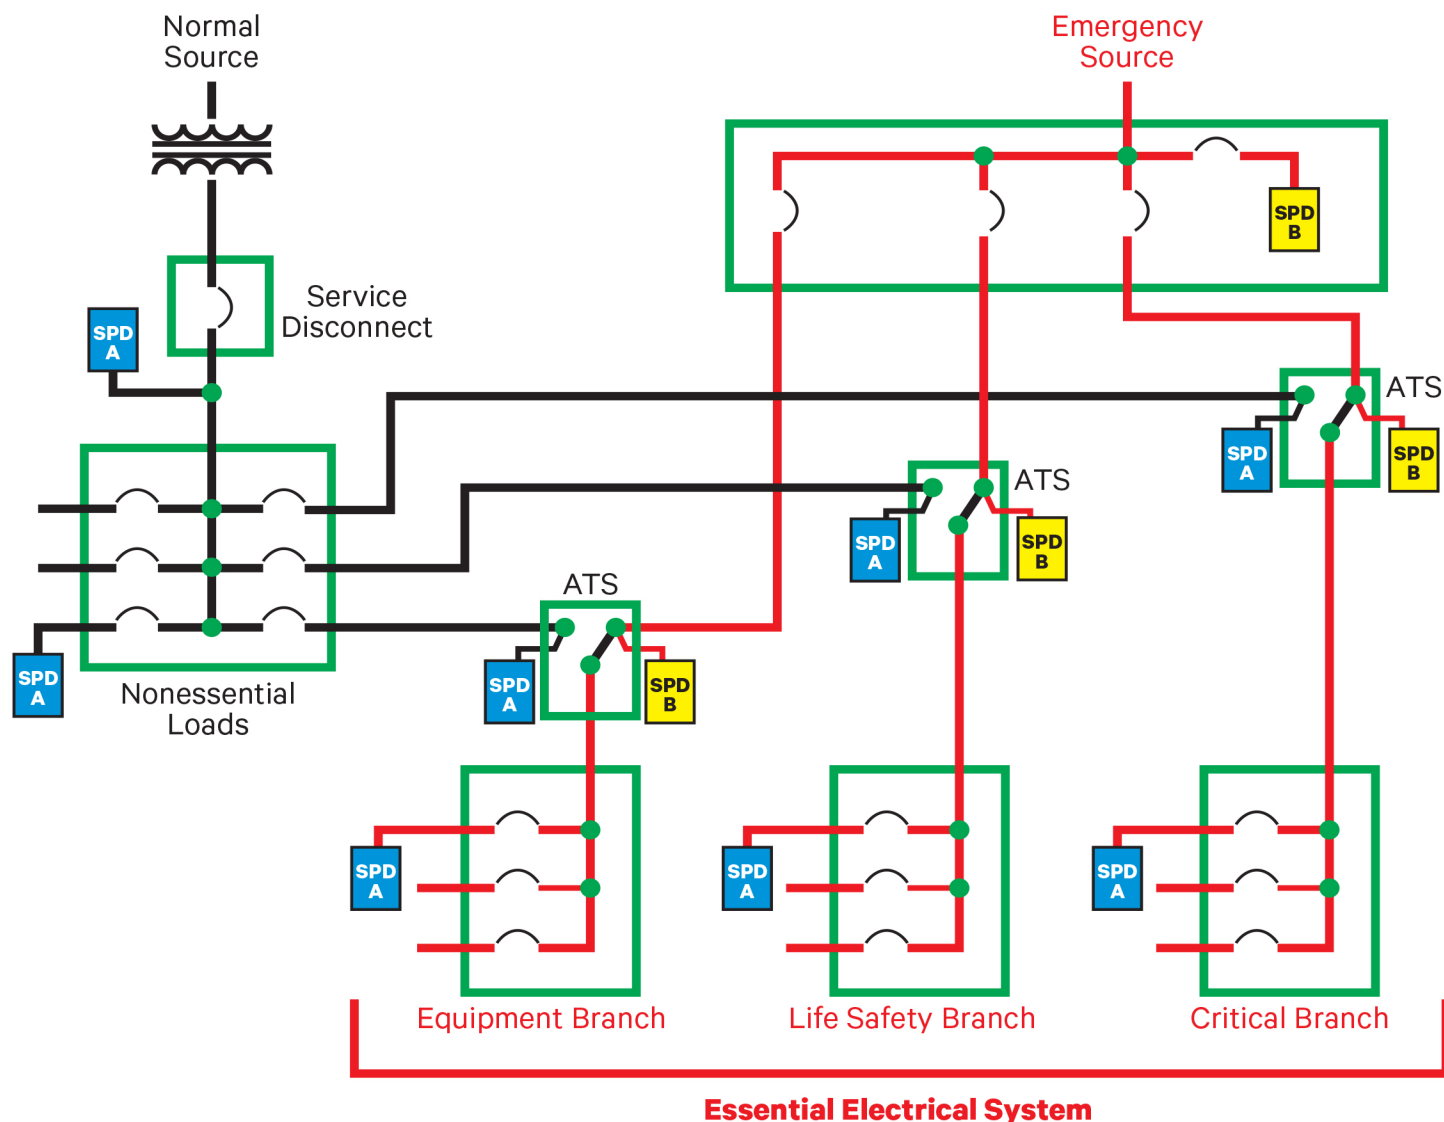

Figure 5: SPDs in a Health Care Electrical System
To protect systems from potential overvoltage, SPDs are necessary to comply with the aforementioned codes and standards. Figure 5 shows the proper SPD placements with the primary circuits of an Essential System within a health care facility. A UL-1449 Type 1 SPD is connected at the service disconnect. Type 2 SPDs are located at (1) the non-essential distribution panel; (2) the normal terminals of the equipment branch, life safety branch, and critical branch ATSs; and (3) the equipment branch, life safety branch, and critical branch distribution panels. Figure 5 shows SPDs designated as (A) that are required for all systems were the emergency power source is contained within the same structure as the health care facility. When a generator is located outside of the building, the SPDs designated as (B) are required.